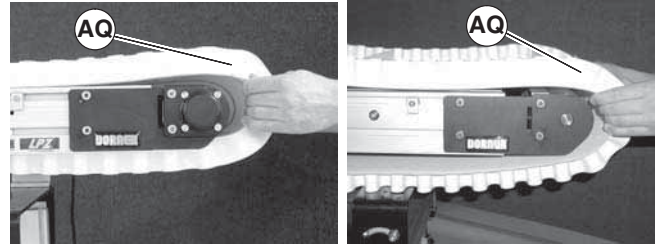

Figure 32
5. If equipped, install return roller bearing (Figure 32, item AP) into knuckle plate (AW) using screws (AO).